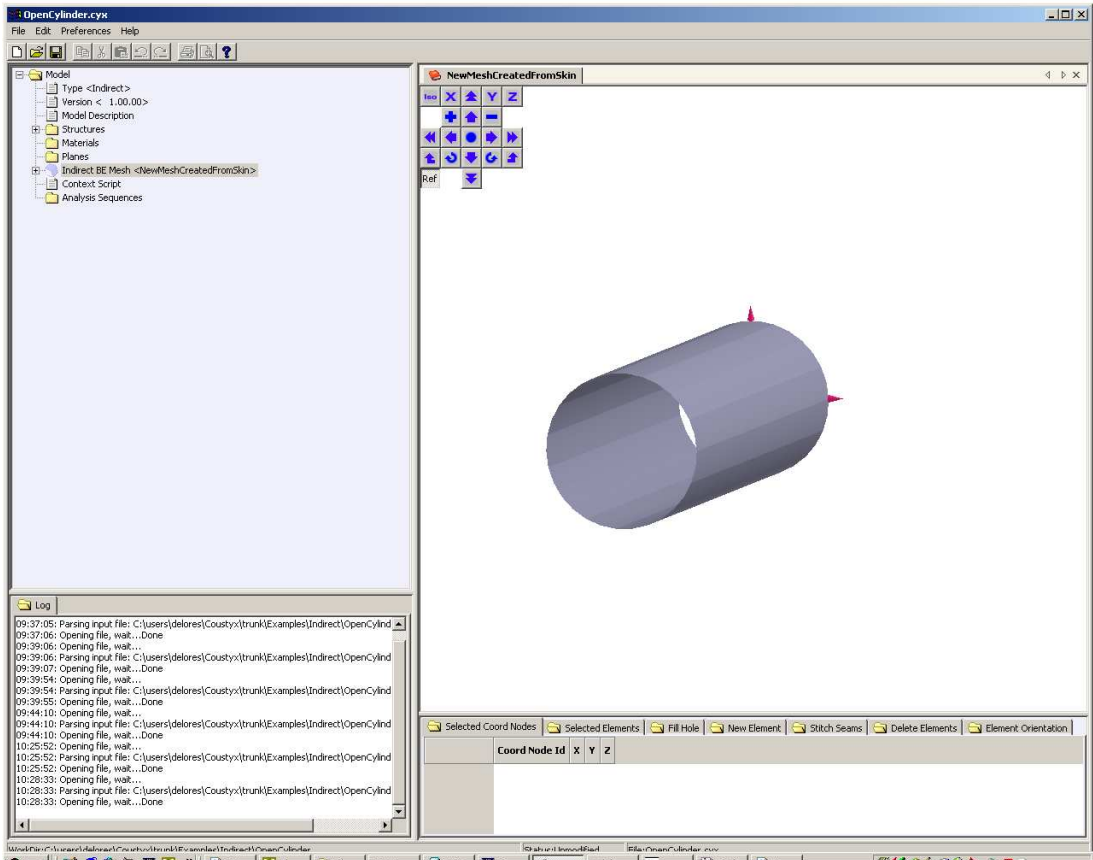
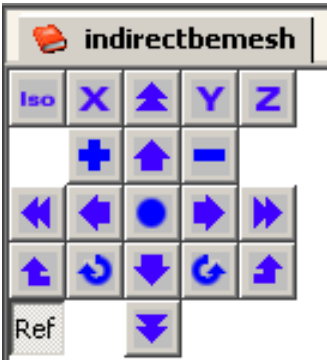

Figure 4.5: Coustyx with Mesh Viewer Window.
Figure 4.6: GUI Control Panel Tools
We can view the Finite Element (FE) structure mesh or the Boundary Element (BE) mesh by opening them in a *Mesh Viewer* window. This section describes the user controls and the functions available to manipulate a mesh when it is open in the *Mesh Viewer* window. Note that the *Mesh Viewer* window appears only when a FE or a BE mesh is opened. To open a mesh in the *Mesh Viewer* window, right-click on the desired mesh in the model tree and select **Open**. Figure 4.5 shows *Couстыx* UI with the *Mesh Viewer* window opened for a BE mesh. The *Mesh Viewer* window is made of two panes: the top pane with the Graphical User Interface (GUI) displays a mesh and the bottom pane with the tabbed windows lists various mesh manipulation tasks.
The GUI control panel is located on the top-left corner of the *Mesh Viewer* window (Figure 4.5, Figure 4.6). It has tools to *zoom* and *rotate* the model. Brief descriptions of these GUI tools are in Table 4.2.
This tabbed window is part of the bottom pane of the *Mesh Viewer* window (Figure 4.5). *This window is read-only.* The window contains a table that shows the id and the coordinates of the
This tabbed window is part of the bottom pane of the *Mesh Viewer* window (Figure 4.5). *This window is read-only.* The window contains a table that shows properties of the selected elements in the mesh viewer. The details presented in the table vary with the type of mesh, FE or BE mesh, and also vary with the type of the model, *MultiDomain* or Indirect BE model. The possible columns in the table are: